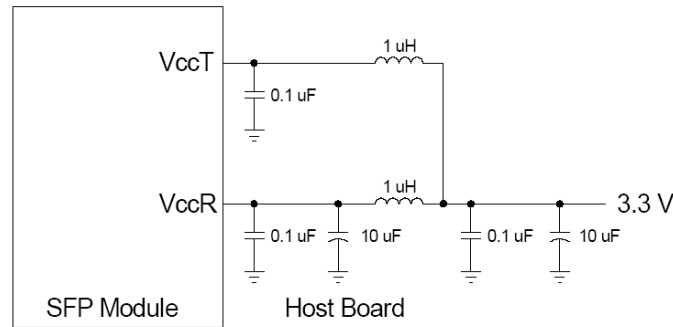

Figure 4, Recommended Host Board Power Supply Filtering Network
6. V_{ccR} and V_{ccT} are the receiver and transmitter power supplies. They are defined as $3.3V\pm 5\%$ at the SFP connector pin. Maximum supply current is 300 mA. Recommended host board power supply filtering is shown in figure 4. Inductors with DC resistance of less than 1 Ω should be used in order to maintain the required voltage at the SFP input pin with 3.3V supply voltage. When the recommended supply filtering network is used, hot plugging of the SFP transceiver module will result in an inrush current of no more than 30 mA greater than the steady state value.